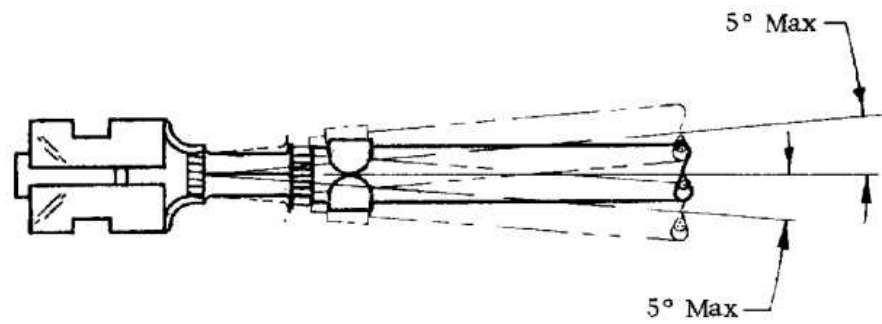

Figure 3
2. The side to side bending of the contact shall not exceed the limits specified in Figure 3.